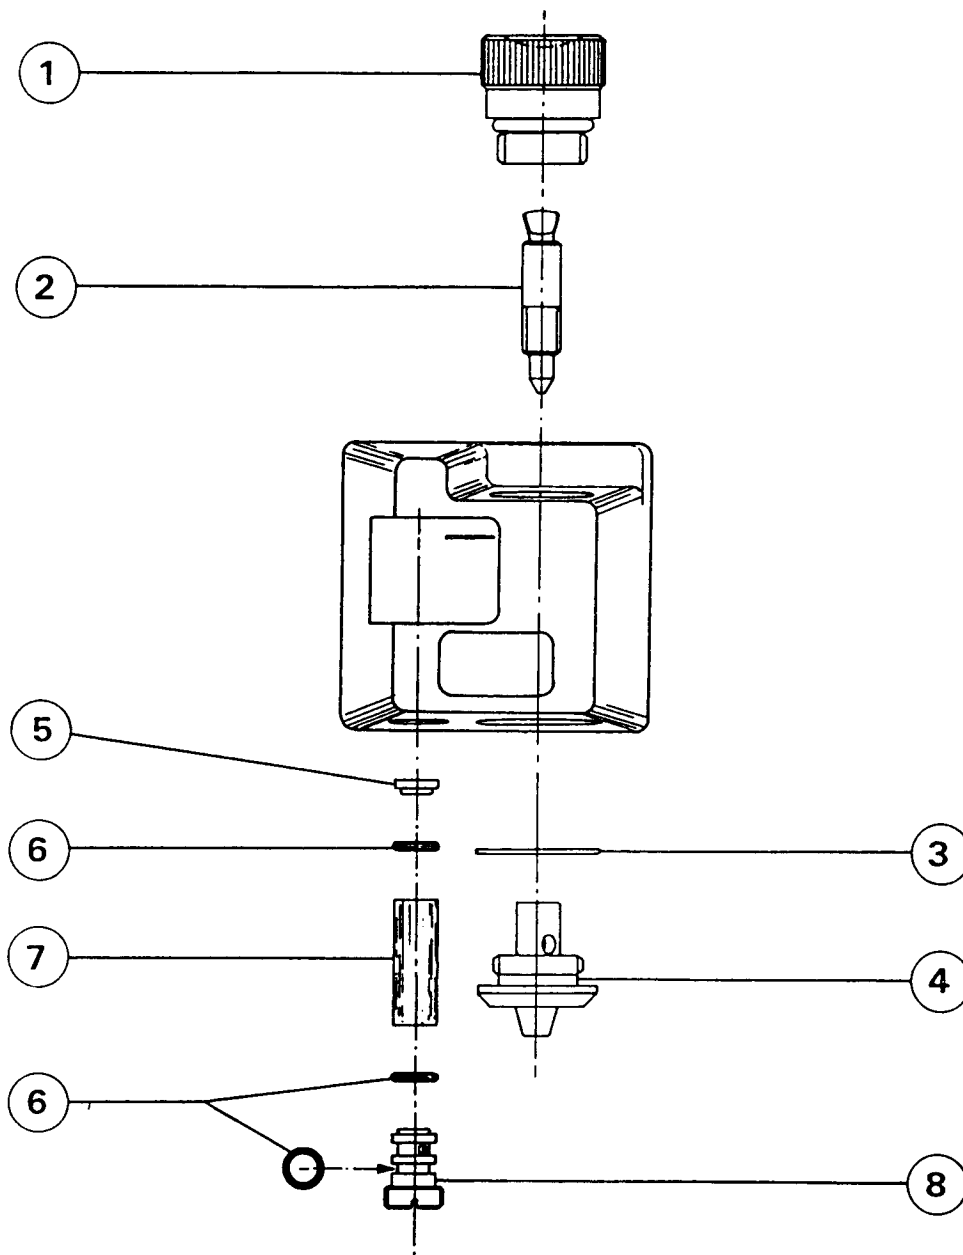

Fig. 5 Standard Filler
4.6 Filler and Level Indicator (Standard type) (Fig. 5)
5.5 Level Indicator and Filler (Fig. 5 and 6)
The level indicator glass should be replaced if cracked or dirty. If leaks occur in the filler glass system, the seals should be replaced. Access to all components is from below, as shown in Fig. 5 and 6. If leaks develop between the filler block and vaporizer chamber, the interface seal should be replaced. Access to the fixing screws is readily obtained once the vaporizer body has been taken out of the vaporizing chamber, see sub-section 6.6.8.